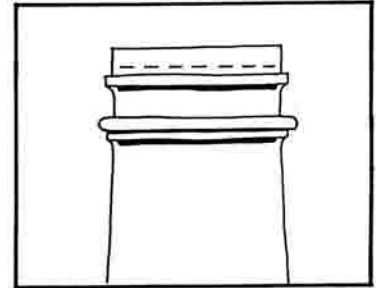
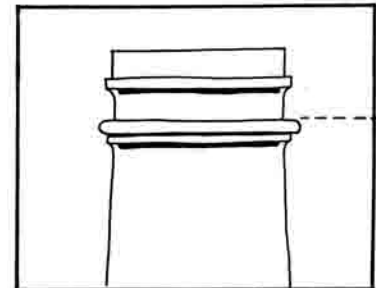
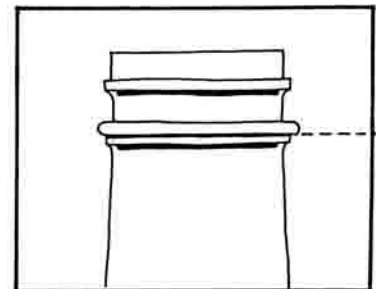

Figure 5-3
Figure 5-4
Figure 5-5
2. Trim top of shaft for the type of capital you will be installing. For fiberglass or poly caps, trim to 1/4" above the fillet (top molding) (Fig 5-3). For Temple of Winds and Roman Corinthian Capitals, trim column at the top of the neck ring molding (Fig. 5-4). For Ionic type capitals, trim column immediately below neck ring (fig 5-5).